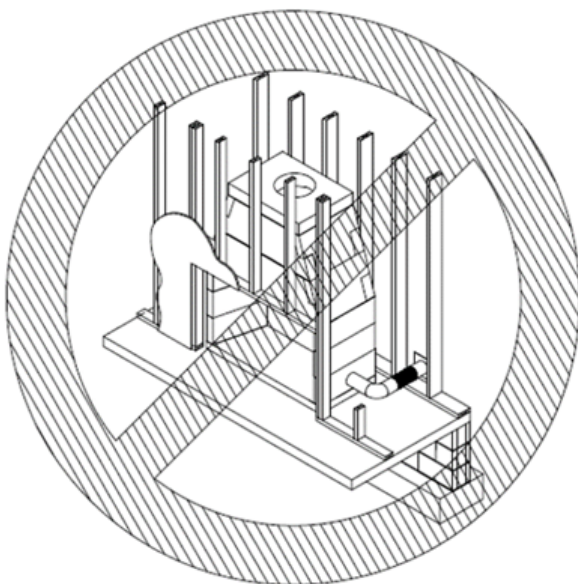

FIGURE 29
**IMPORTANT:** Do not build a combustible frame wall in front of the BVETTO firebox / smoke dome assembly. (Figure 29)
Combustible wood sheathing such as plywood and particle board may be used to cover the front of the Isokern smoke dome and be in direct contact with it. Application of such combustible sheathings must assure that the sheathing is held a minimum of eight inches (8") away from each side of the finished fireplace opening and a minimum of eight inches (8") inches above the top of the finished fireplace opening. (Figure 29 & 30)